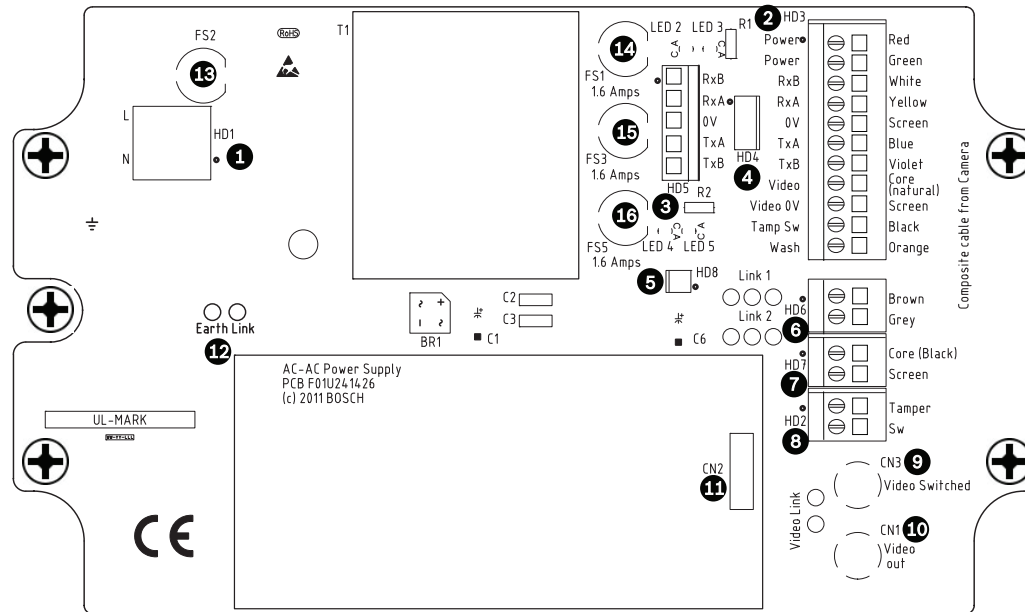

Figure 3.3 Layout of PCB in enclosure of PSU for non-IR MIC cameras
Non-IR MIC power supplies have four (4) off 20 mm fuses (numbers 13 - 16 in *Figure 3.3*) in fuse holders. The ratings for these fuses are fixed on the low voltage secondary side but change with input voltage on the high voltage primary side. The following table shows the fuse values that should be fitted to provide proper protection for the power supplies. **Note:** Fuse FS4 does not exist.